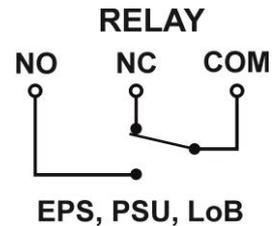

Fig. 5. Electrical diagram of relay outputs.
**CAUTION!** In Fig.5. the contact set in the potential-free status corresponds to a state with no AC power (AC power failure).
**CAUTION!** In the Fig.5. the set of contacts shows a potential-free status of the relay which corresponds to a state with no DC power (PSU failure).
**CAUTION!** In the Fig.5. the set of contacts shows a potential-free status of the relay which corresponds to a state with low battery level ( $U_{BAT} < 11,5V$ ).